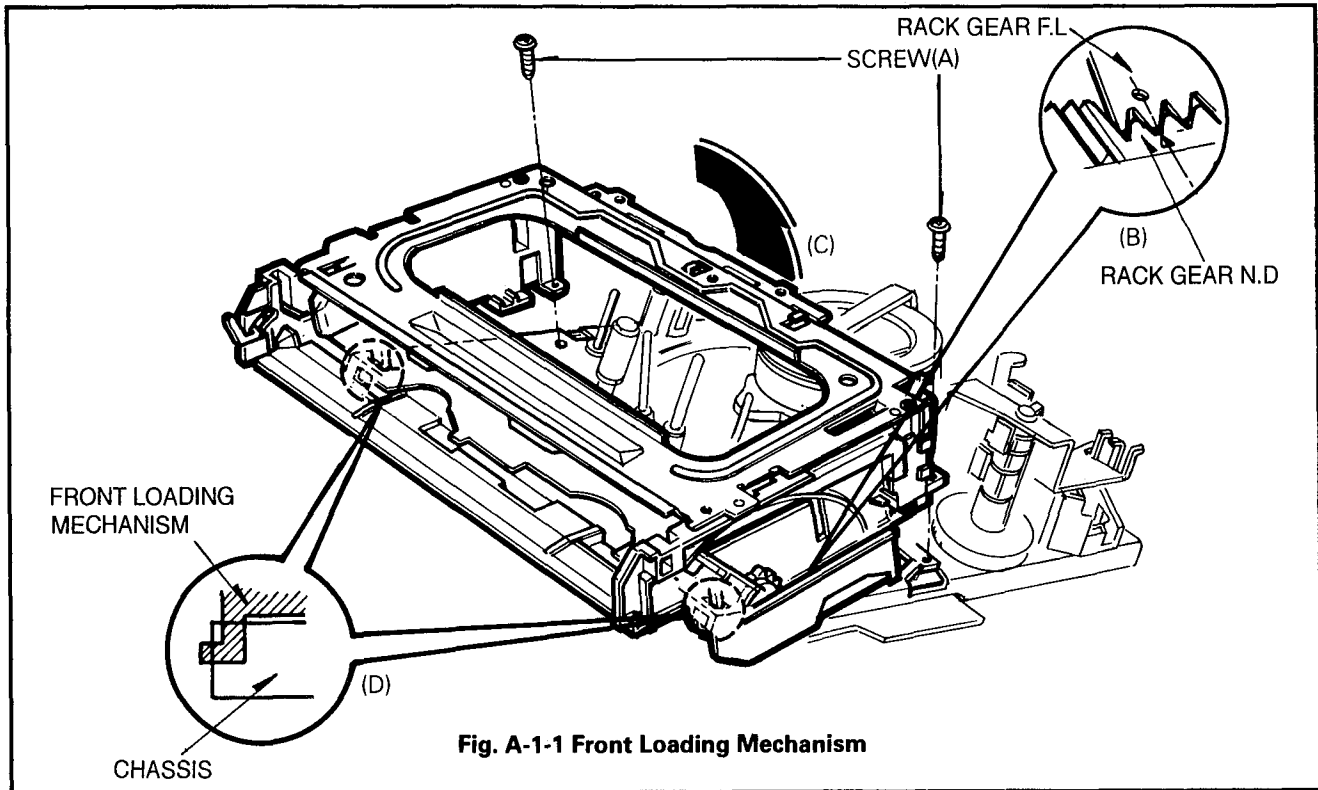
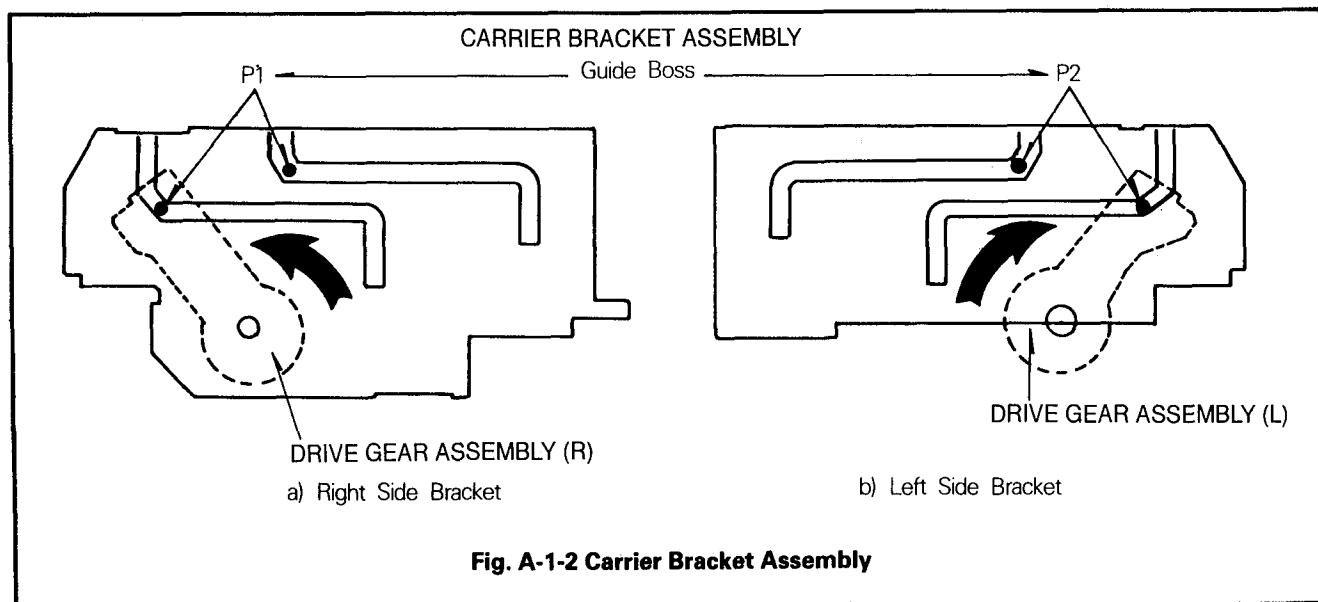

Fig. A-1-1 Front Loading Mechanism
Fig. A-1-2 Carrier Bracket Assembly
1. Front Loading Mechanism Assembly (Fig. A-1-1)
- ① Give special attention to removal and to reassemble, because two tabs(D) are engaged.
- ② Make sure that Bosses of Bracket(L),(R) are properly engaged in the holes of the chassis
- ③ To reassemble Front Loading Mechanism, the Drive Gear Assembly should be turned in a counterclockwise as shown in Fig A-1-2 so that the Rack Gear N.D of Front Loading Mechanism Assembly is meshed into Rack Gear F L of Deck Mechanism Assembly correctly as shown in Fig A-1-1.(B).